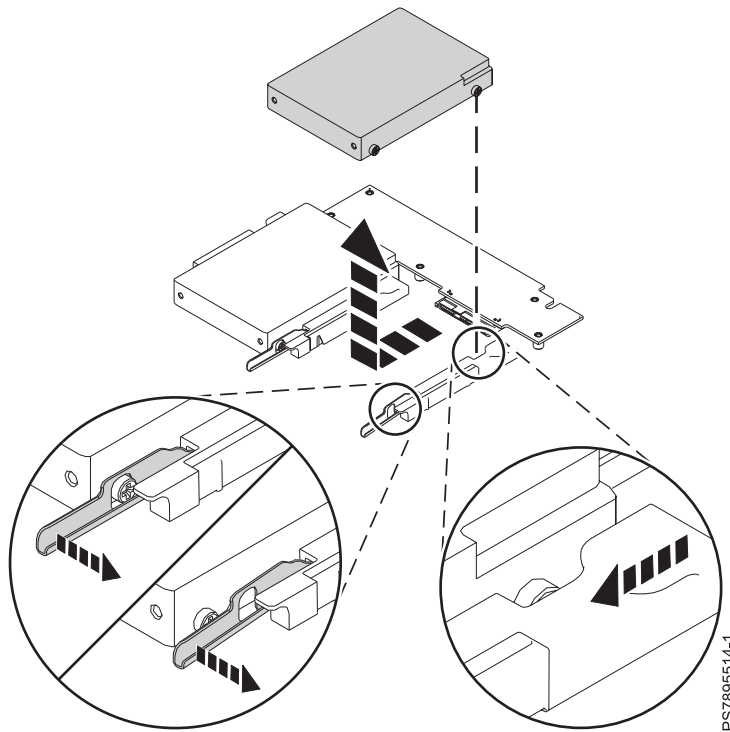

Figure 17. Removing a hard disk drive
- a. Move and hold the blue release lever at the front of the drive tray, as indicated in Figure 17.